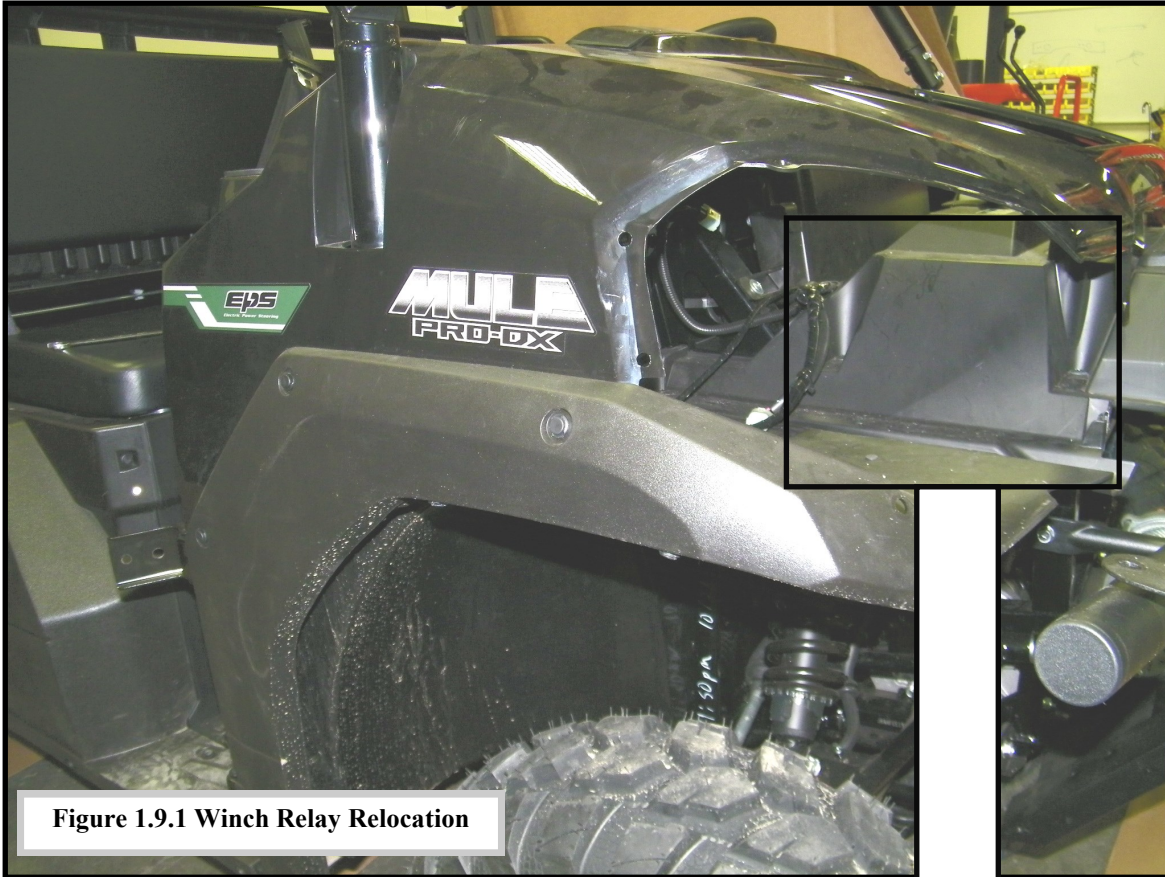

Figure 1.9.1 Winch Relay Relocation
- 1.9 If Kawasaki winch has been installed, remove fasteners for the winch's relay and drill new holes (6mm or 1/4"). Place a 2x4 piece of wood or similar between the radiator cover and the radiator to prevent puncturing the radiator. Do not install the relay until step 9.2 of this manual (page 24). (Figures 1.9.1 & 1.9.2 on next page)